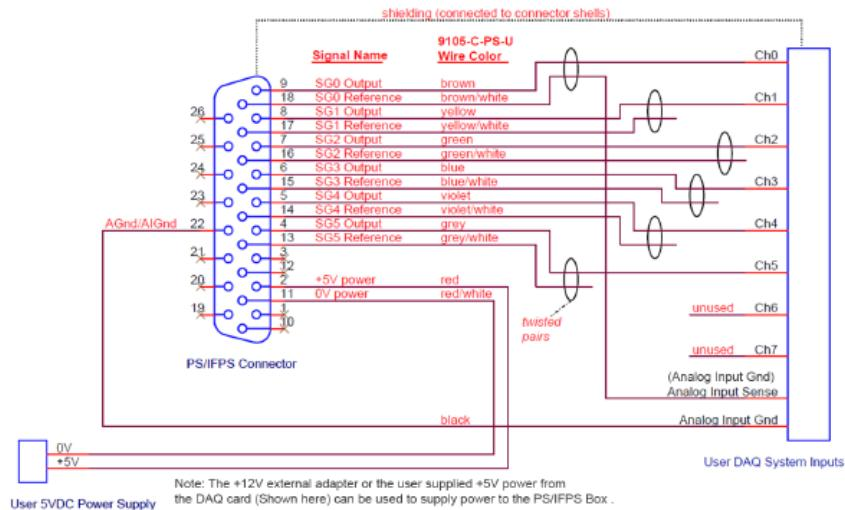

Figure 3: Single-ended wiring connections to data acquisition system (page 36 from 9620-05-DAQ)
- Single-ended connections to DAQ (Figure 3)